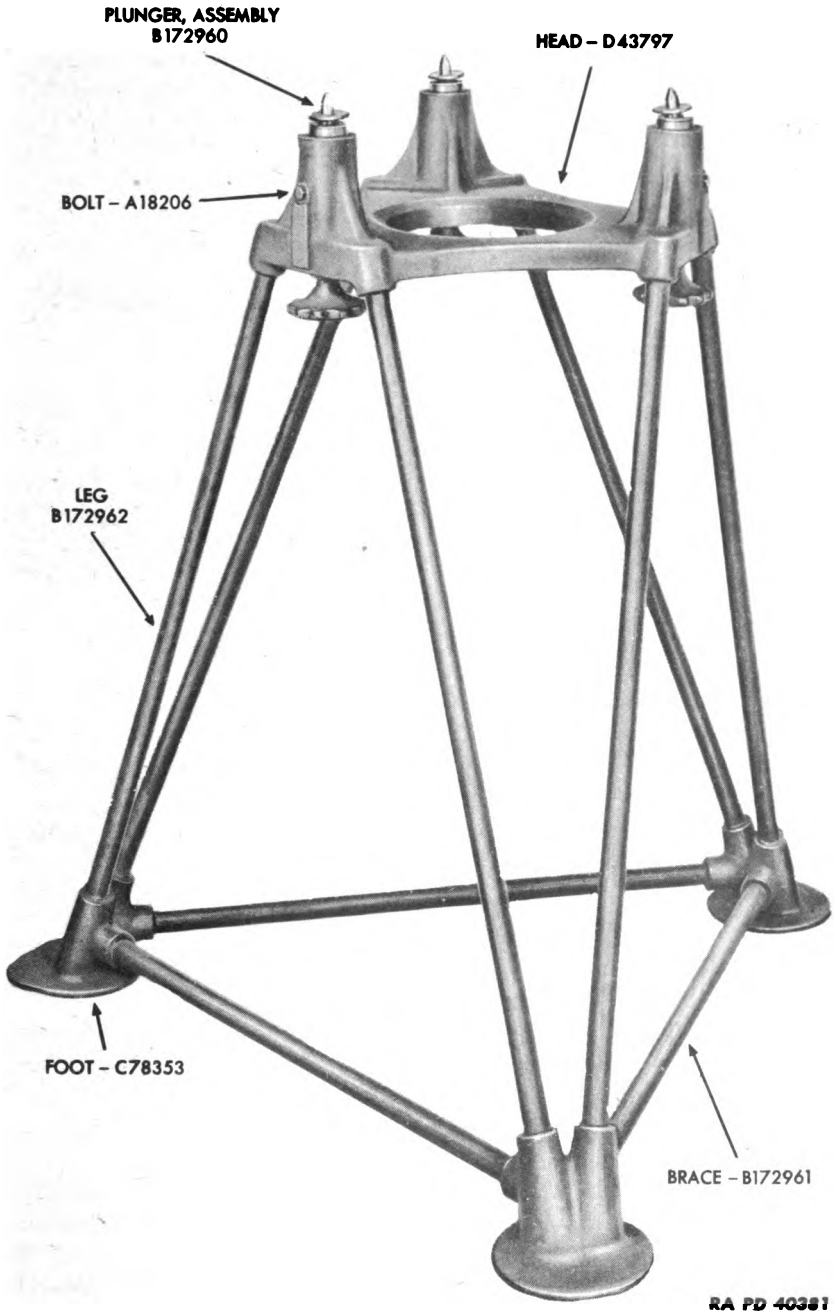

Figure 54 — Tripod M7 (Welded Assembly)
a. Tripod M7 (fig. 54) is of welded tubular steel construction. It has three adjustable plunger assemblies, shown in figure 56, which permit the director to be levelled.